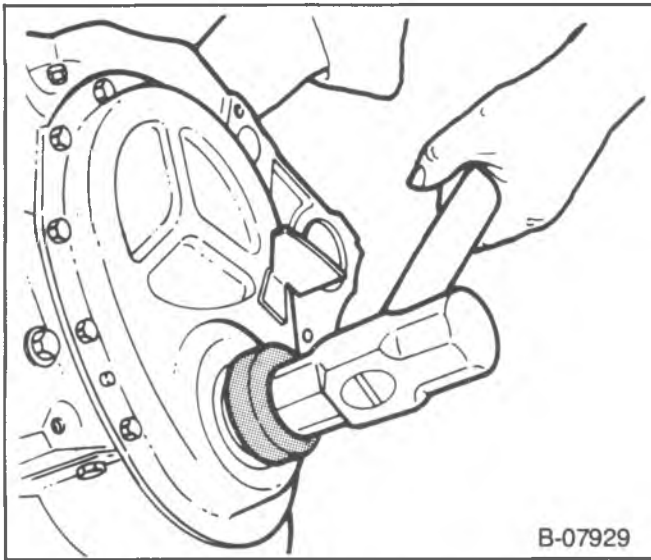

Figure 17—Installing the Front Crankshaft Oil Seal
**Install or Connect (Figures 17 and 18)**
2. Front crankshaft seal. Use J-35468 (figure 17). The open end of the seal faces inside the engine. Coat the seal lips with engine oil.